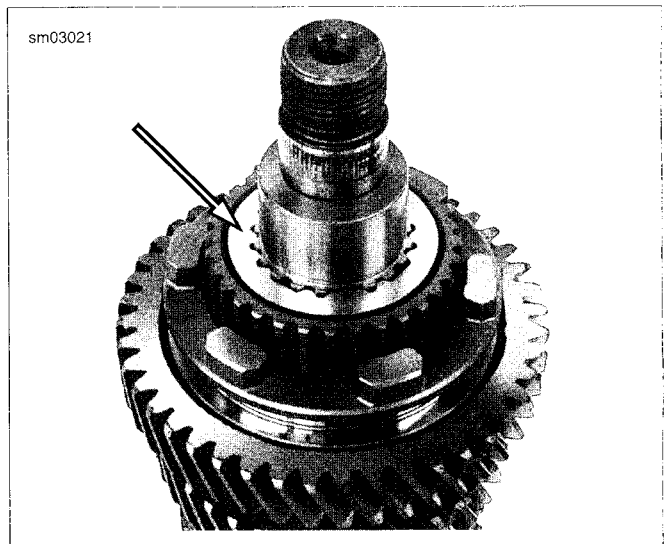

Figure 6-18. Lock Ring
See Figure 6-18. Note the direction that the 2nd gear locking ring is installed.
5. See Figure 6-18. Place lock ring over securing segments with the stepped face of the lock ring against the securing segments.